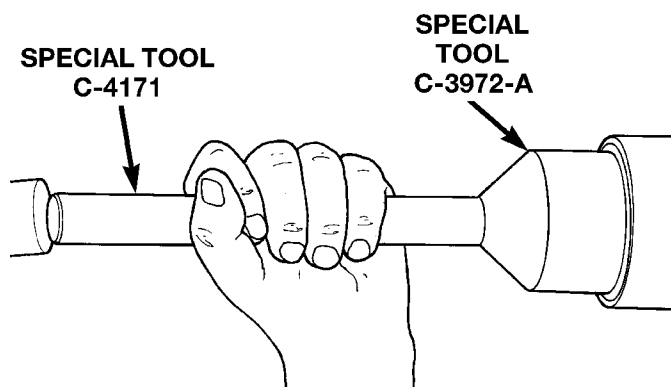

Fig. 45 Pinion Seal Installation
(3) Install pinion front bearing and oil slinger, if equipped. Apply a light coating of gear lubricant on the lip of pinion seal. Install seal with Installer C-3972-A and Handle C-4171 (Fig. 45).